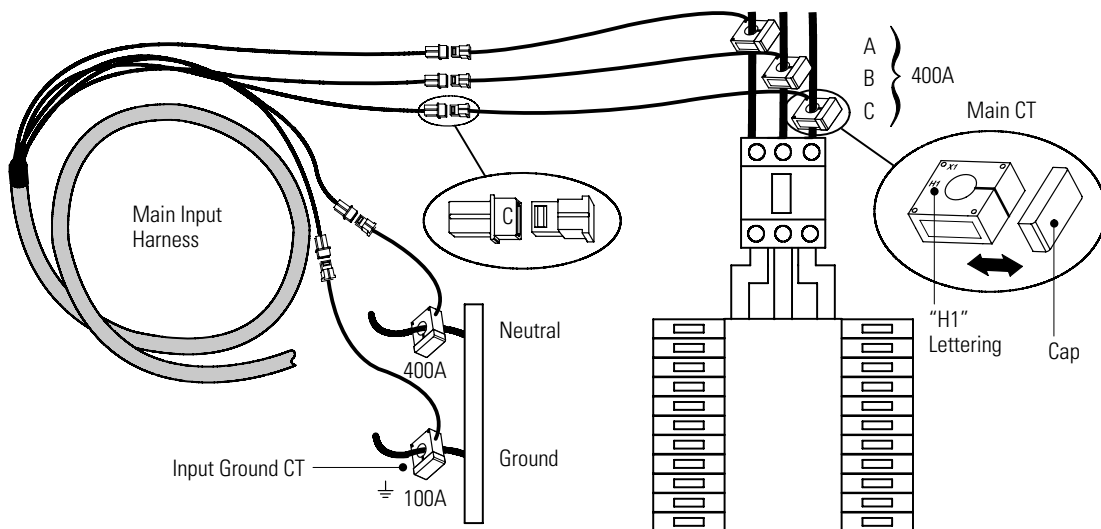

Figure 8. Main Input Harness Connections
- 5. Main input monitoring option only.** Connect the main input harness to the breaker panel (see Figure 8):